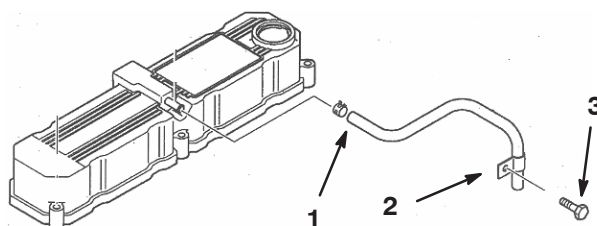

Figure 3
7. Remove the R-clamp securing the old breather hose to the side of the engine. Remember the mounting hole location. Also, remove the hose clip securing the hose to the fitting on the rocker cover (Fig. 3). Discard the R-clamp, screw and the breather hose.